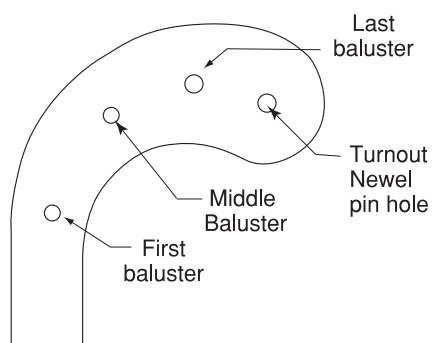

Fig. 5-20 Large Turnout
7. Using the spacing distance from step 5 and starting from the layout mark of the back baluster, mark the intersecting lines on the bottom of the large turnout from the other balusters. Please note Fig. 5-20 here.